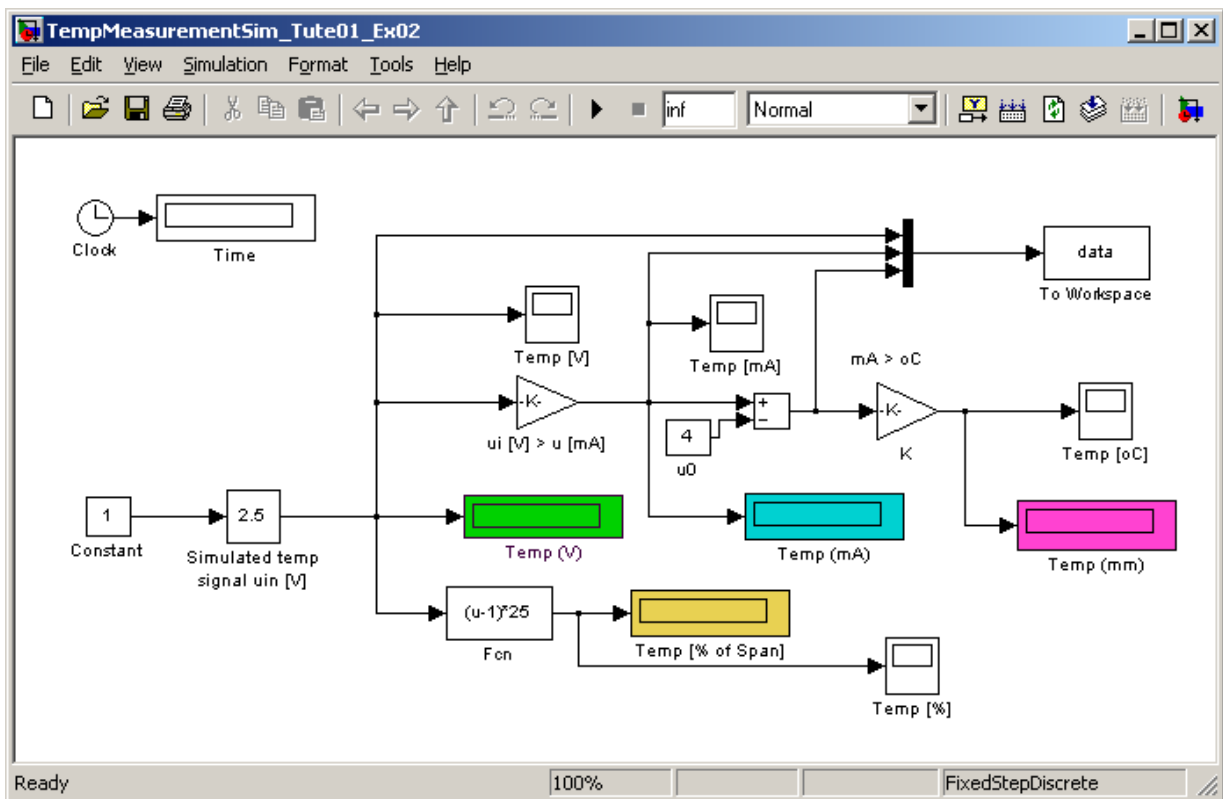

Figure 17 System parameters
- Wire the blocks and set system parameters as in **Fig. 17** (demonstrate each step).